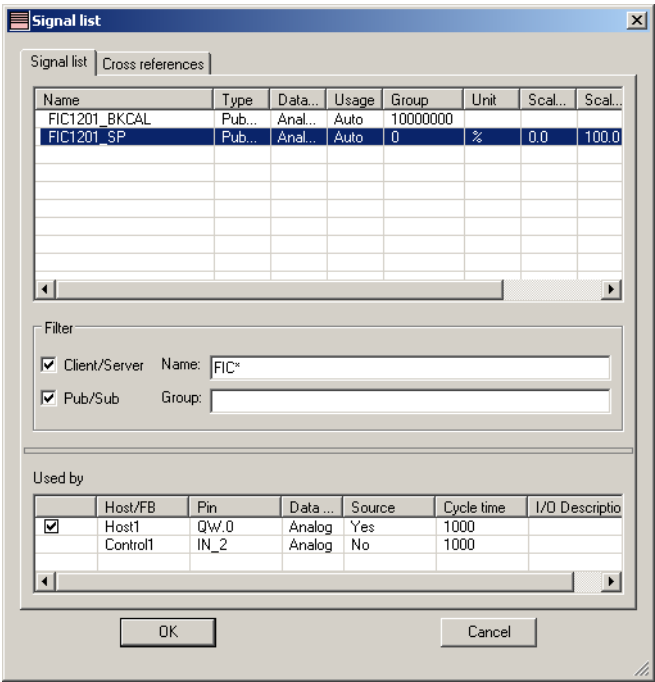

Figure 172. Example for signal usage configuration
- c. Check the Host by which the signal shall be used. If the communication direction is IEC61131 -> FF, check, whether the source parameter is set to “yes”. Refer to Figure 172